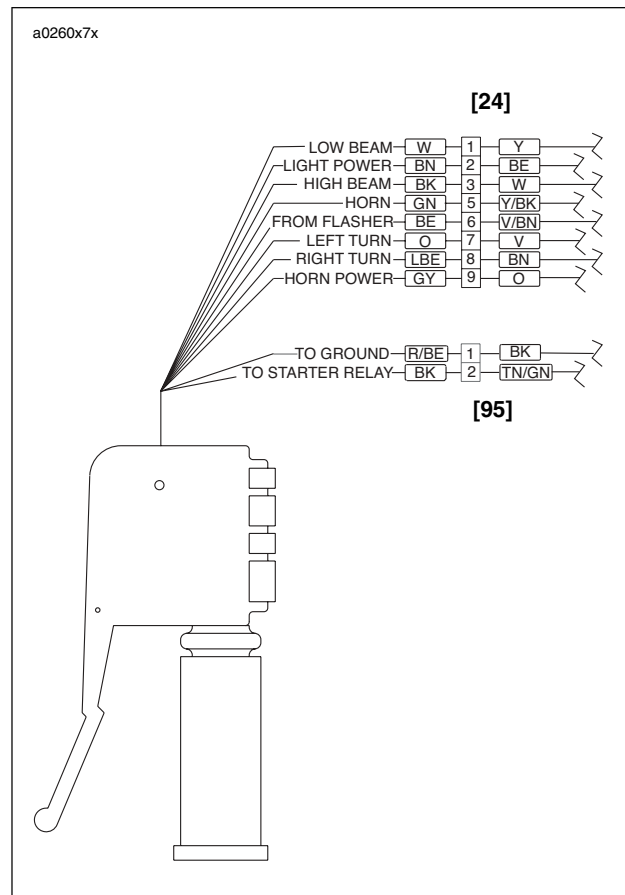

Figure 7-73. Left Handlebar Switch Connection [24] and Clutch Switch Connection [95]
3. See Figure 7-73. Cut cable strap(s) as necessary to access left handlebar switch connector [24] and clutch switch connector [95] behind dash. Detach connector [24] from wiring harness.
2. See Figure 7-73. Route switch housing wiring harness between front forks. Attach connector [24] and connector [95] to wiring harness. Fasten wiring harness behind dash with **new** cable straps.